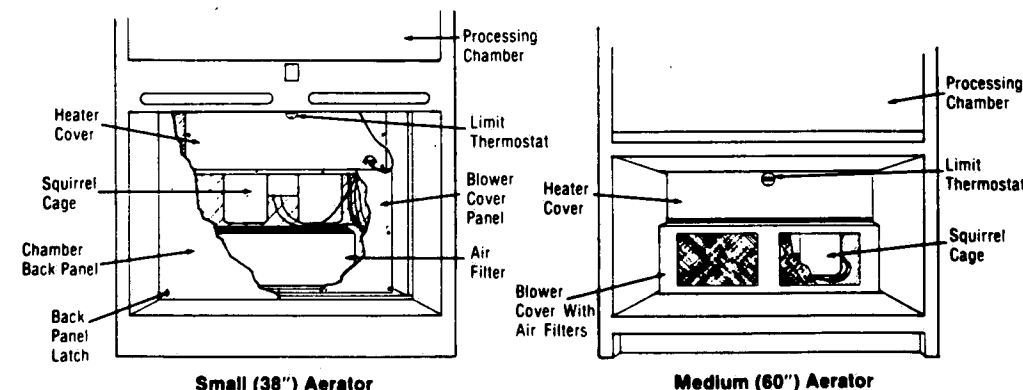

Figure 3-1. AERATING SYSTEMS.
- a. Inspect the limit thermostat located on the heater cover (Fig. 3-1). The reset button should be in the depressed position.
- c. Check heaters, blower, and thermostat for loose wires or improper connections (Fig. 3-1).
- d. Check for tight seals around the heater and fan shells. Operate fan to check for vibrations (Fig. 3-1).
- e. Replace covers, panel, and shelf as applicable (Fig. 3-1).